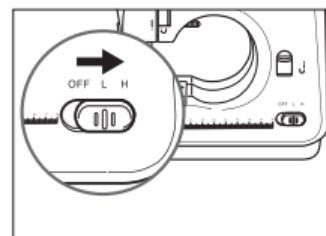

Fig.9
6. Slide the power switch to Low or High speed position and the machine will automatically start sewing. We recommend the low speed for beginners.(Fig.9)